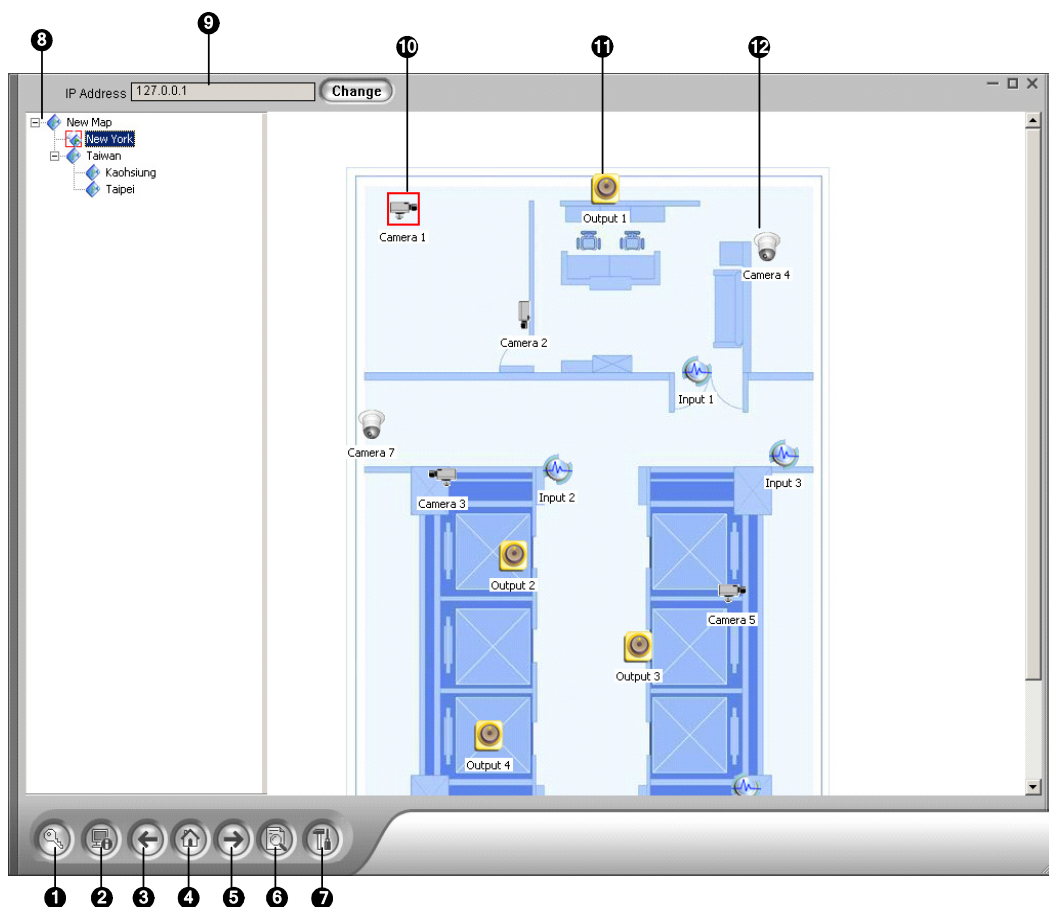

Figure 9-10 The Remote E-Map Window
When the client PC connects to the WebCam server, all the E-Maps saved in the local server will be downloaded to the client PC, with the E-Map files of 500 hosts at most. The E-Maps created for remote hosts can only function through WebCam after you log in these hosts. You can login 500 hosts at a time. Click the **Login** button (No. 1, Figure 9-10) to display the following Login window.
Click the **Configure** button (No. 7, Figure 9-10) to display the following dialog box:
The Host Information window lists the triggered events of cameras and I/O devices. Click the **Host Information** button (No. 2, Figure 9-10) to open it.
On the Remote E-Map window, the **ViewLog** button (No.6, Figure 9-10) is designed for the Remote ViewLog function, giving you remote access to the recorded files of DVR and playing back video by the player ViewLog. For details on starting the Remote ViewLog service, refer to *Remote ViewLog* in Chapter 8.
4. Click the **Login** button (No.1, Figure 9-10) to select the desired host(s) to access videos and I/O devices.